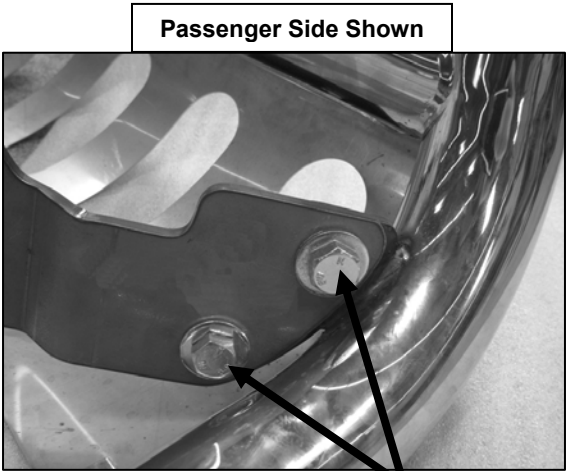

Figure 4
- Position Bull Bar on the outer side of Mounting Brackets. Install Bull Bar onto Mounting Brackets using the included (4) 12-1.75mm x 30mm Hex Head Bolts, (4) 12mm Nylock Nuts, and (8) 12mm Flat Washers (Figure 4). Do not tighten at this time.